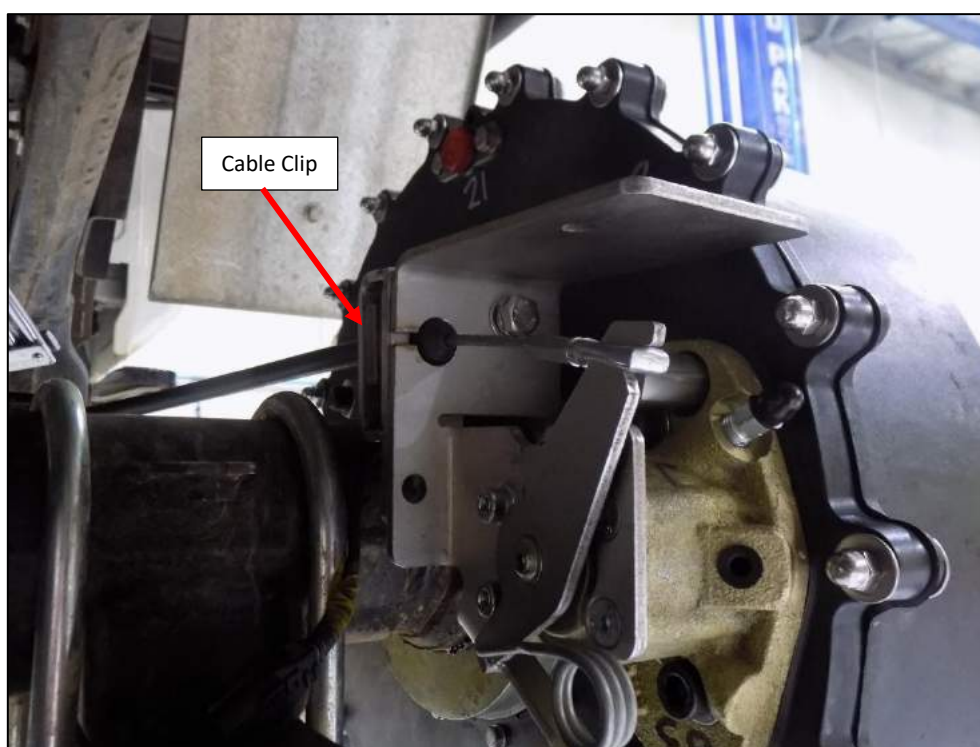

Figure 32
20. Lock the cable gland in position with the supplied cable clip (Figure 32).